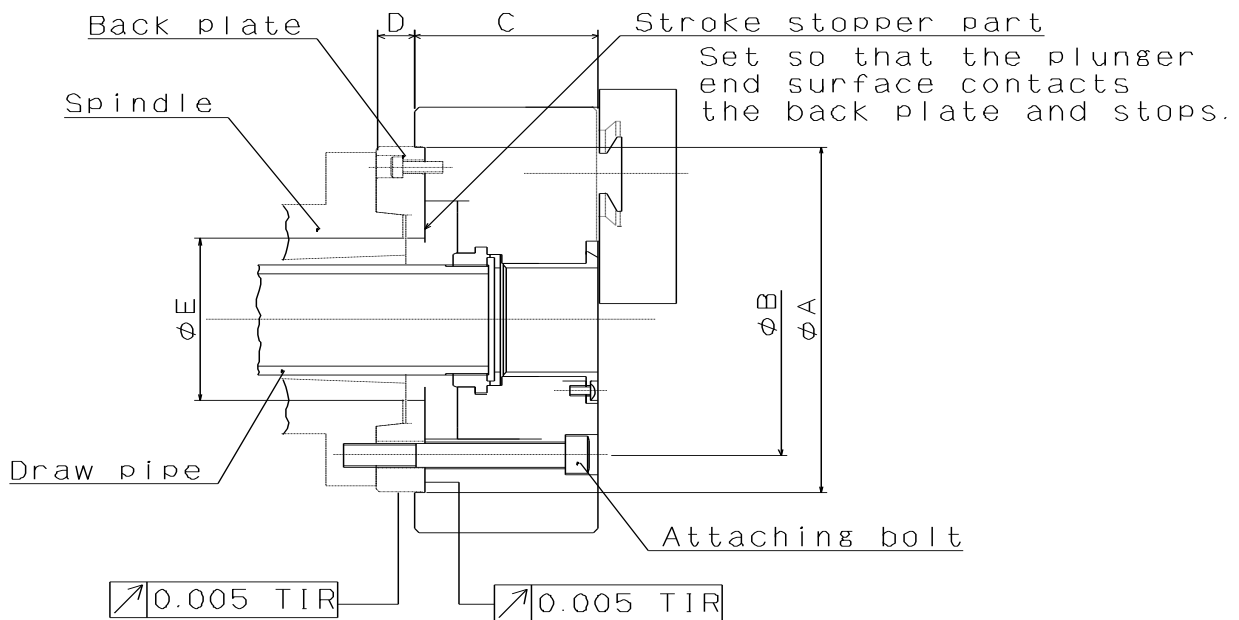

Fig.19
- Fig.19 shows the case of the JIS short taper standard.
- Determine the dimension (dimension ϕE in Fig.19) of the back plate so that the plunger nut end surface contacts the back plate and stops when pulling the plunger nut. If the stroke is larger than the one specified, it may cause a chuck breakage or gripping failure.